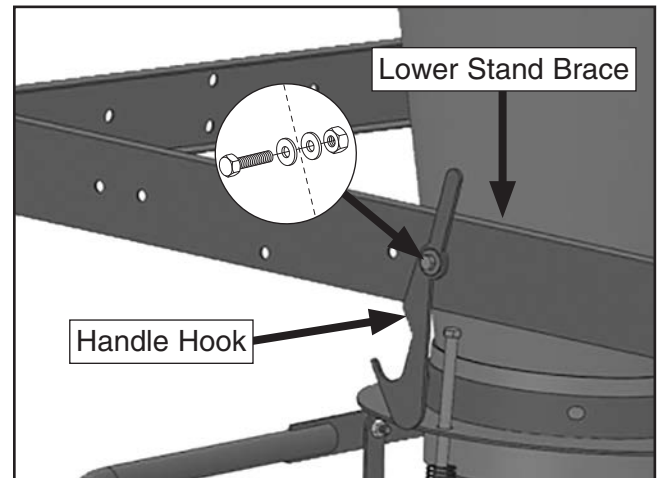

Figure 41. Handle hook attached to lower stand brace.
57. Attach handle hook to lower stand brace above handle with (1) $\frac{3}{8}$ "-16 x 1" hex bolt, (2) $\frac{3}{8}$ " flat washers, and (1) $\frac{3}{8}$ "-16 lock nut (see **Figure 41**).